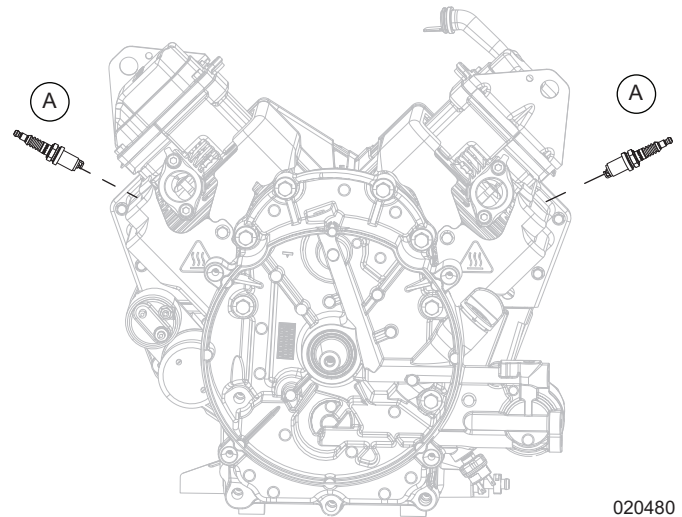

Figure 12-20. Install Spark Plugs
1. See Figure 12-20. Install spark plugs (A) into both cylinders.